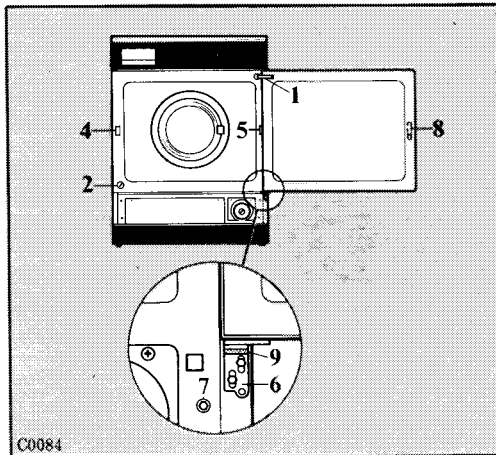

Fig. 13
- c) Fit the cap (2-Fig. 13) in the hole left free by the closing catch and rotate it 90° so as to lock it in position;
- d) Fit in and rotate 90° the closing catch (1-Fig. 13) in the hole left free by the cap, making sure that the engaging tooth is facing towards the right side;
then rotate it of 90°. Refit the stop hook (4-Fig. 13) and stud 5 (fig. 13) on the opposite side.
Fasten the door on the opposite side by means of hinge (6-Fig. 13) provided as an attachment and using the two previously removed screws.
Check the door is aligned with the cabinet; to make this operation easy, it may be advisable to loosen by two turns the screws (7-Fig. 13) provided next to the hinge's fastening holes, then tighten the screw again.
Fit on the hinge's bottom portion (6-Fig. 13) the adhesive bearing (9-Fig. 13) provided as an attachment so as to avoid scratches on bottom panel;
Fit into seating provided on the door the flexible end of the door closing catch (1-Fig. 13).